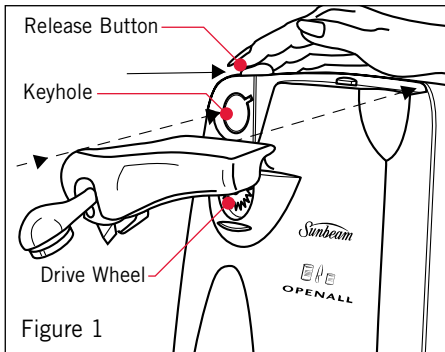

Figure 1
1. Ensure that the Cutting Assembly is correctly positioned. (See figure 1.)